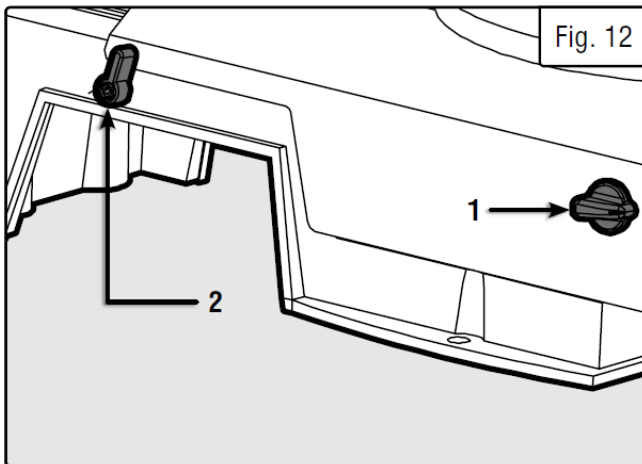

Fig. 12
2. Unlock both the front locking knob (Fig. 12 – 1) and the back locking knob (Fig. 12 – 2) and open the side panel.
7. Close the side panel and secure it by locking both the front (Fig. 12 – 1) and back (Fig. 12 – 2) locking knobs.